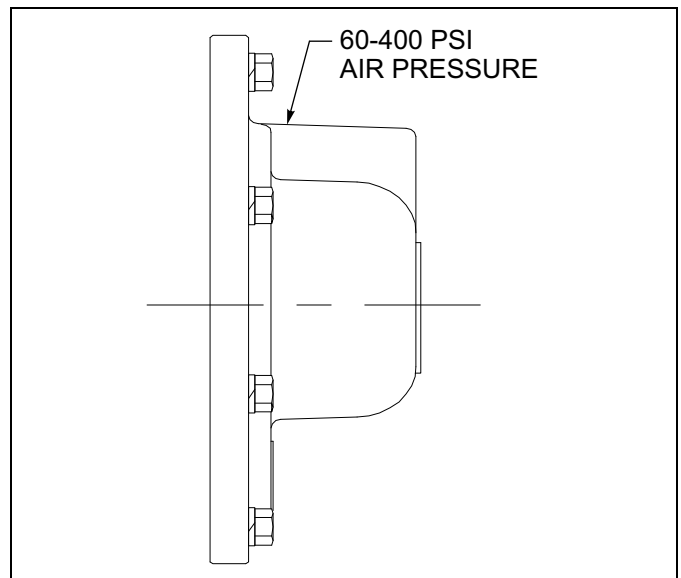

Figure 3-6: DP - Air/Hydraulic Kickout
2. The air freespool clutch is operated by application of air pressure to the fitting supplied on the winch gearbox housing **(See Figure 3-6.)** The fitting is designed to accept 1/4" rigid plastic tubing.